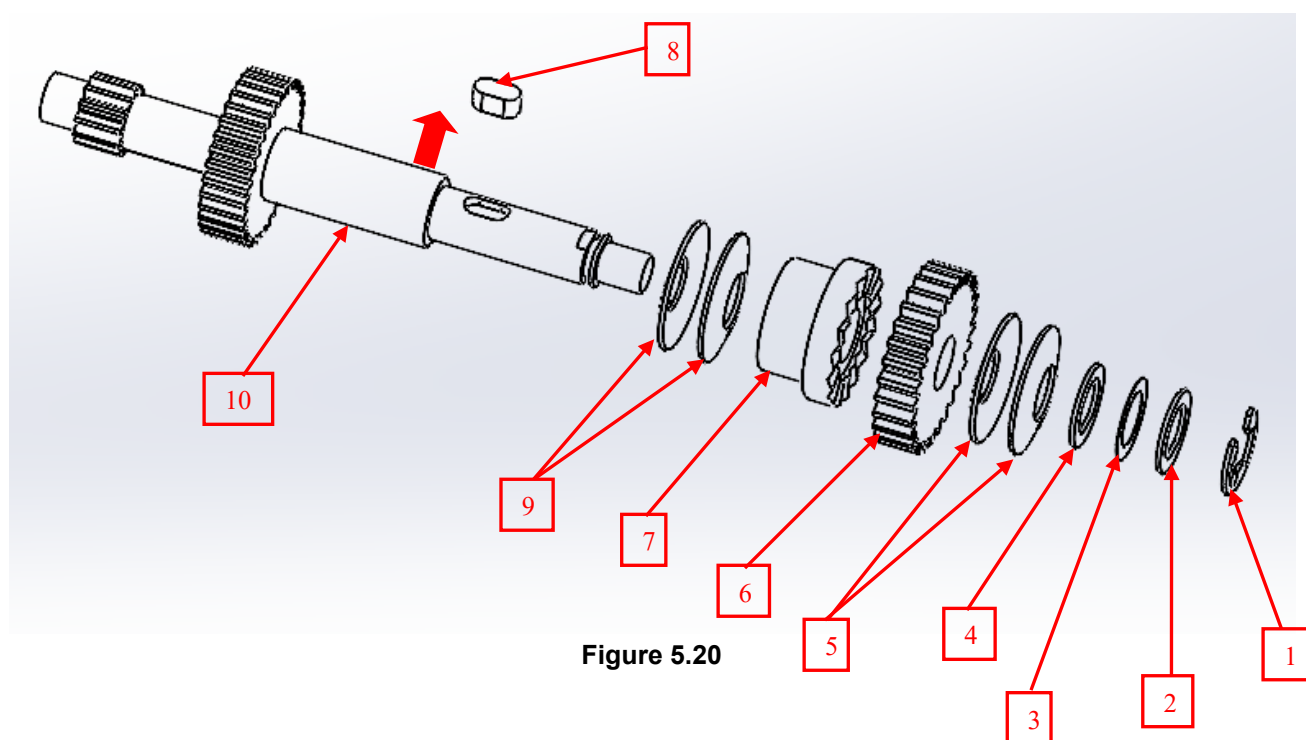

Figure 5.20
5.6.5 Proceed with the disassembly of the clutch following the various steps and as shown in figure 5.20:
- a) Remove the seeger ring (COT91039) - figure 5.20 – position 1;
- b) Remove the washer (COT91041) – figure 5.20 – position 2;
- c) Remove the washer (COT91040) – figure 5.20 – position 3;
- d) Remove the washer (COT91042) – figure 5.20 – position 4;
- e) Remove the two cup springs (COT90573) – figure 5.20 – position 5;
- f) Remove the clutch gear (COT91044) – figure 5.20 – position 6;
- g) Remove the second clutch gear (COT91043) – figure 5.20 – position 7;
- h) Remove the keyway (COT90051) – figure 5.20 – position 8;
- i) Remove the two cup springs (COT90573) – figure 5.20 – position 9;
- j) The central clutch gear (COT91045) remains – figure 5.20 – position 10.